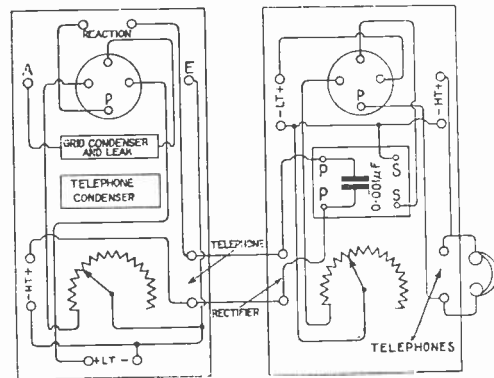

Fig. 1.
"A.C.D." (Leeds).—(1) See Fig. 1. (2) 0.001 mfd. for aerial circuit and 0.0005 mfd. for closed circuit. (3) Not necessary.